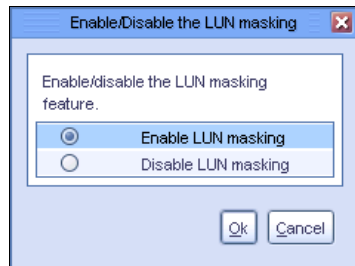

Figure 6-6 Enable/Disable LUN Masking
2. The Enable/Disable LUN Masking window opens. Select **Enable LUN Masking** to turn on LUN Masking, or **Disable LUN Masking** to turn off LUN Masking, as shown in Figure 6-6. Click **OK**.